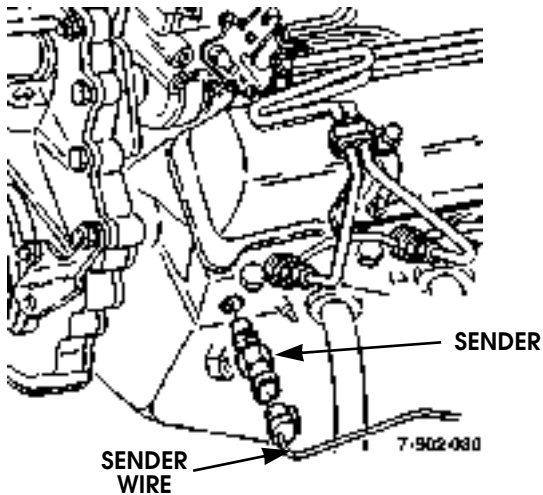

Figure 3-58: Engine Temperature Sender
1. Remove nut, lockwasher, lead, and sender from engine (Figure 3-58).
2. Apply teflon sealant to sender threads, and install sender, lead, lockwasher, and nut on engine (Figure 3-58).